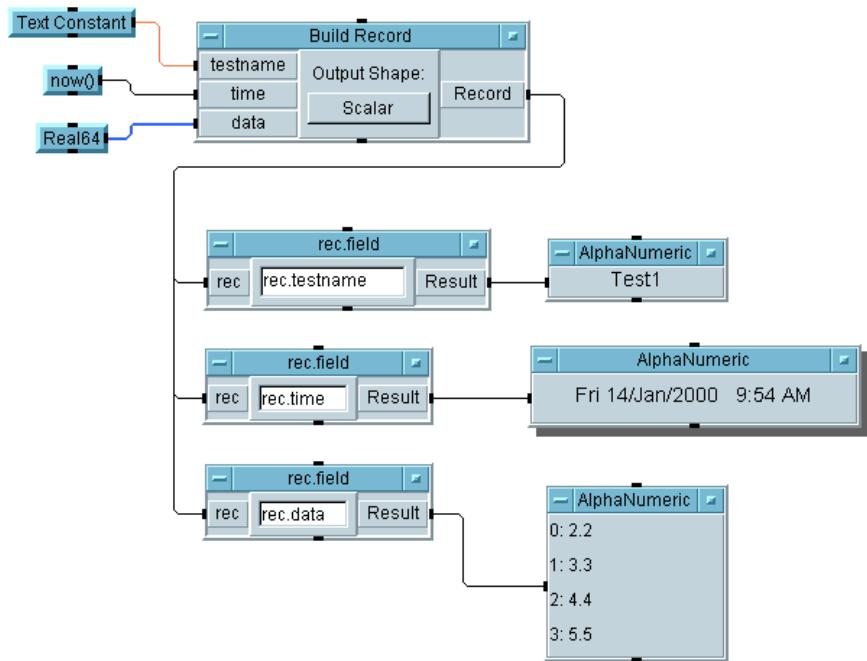

Figure 5-11. Using the Get Field Object
9. Run the program and save it as getfield.vee. The program should look like Figure 5-11.